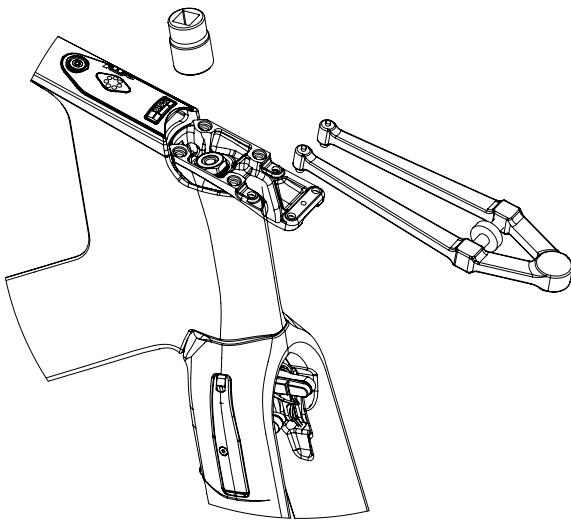

Fig. 11
- 5- Put the nut back and tighten the screw to 55 **Nm** torque. This operation needs the fork locked, use a pin wrench (fig.11) that you insert into the holes in the stem used for fixing the bar. During tightening the key system allows self-alignment of the stem with the fork.